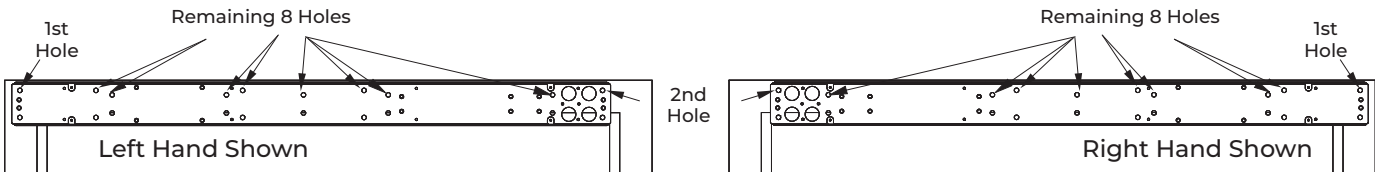

Fig. 3
4. Ensure backplate is aligned with door frame. Using the backplate as guide, mark and drill second mounting hole. (Fig. 3)
6. Using backplate as a guide, drill and tap remaining eight (8) holes in frame. (Fig. 3)
7. Secure with eight (8) screws and tighten.
8. **For concealed wiring:** Using the backplate as a guide, mark and pre-drill two (2) conduit holes with the 3/16" drill. Then use the Ø7/8" hole saw or equivalent to drill two (2) conduit holes.